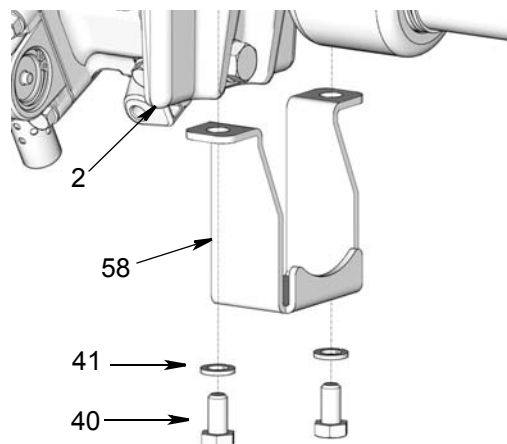

FIG. 34
4. Install finger guard (58) to pump base (2). Install washers (41) and screws (40). Tighten securely (FIG. 34).